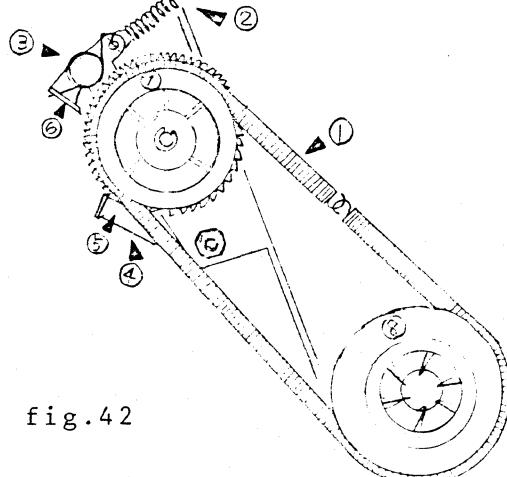

fig.42
Check if the referring springs are all in the proper position and all referring parts work free. (see fig.42)
Check if the surface of the feed pulleys and feed spring are not greasy with excessive oil. (see fig.42 ①⑦⑧)